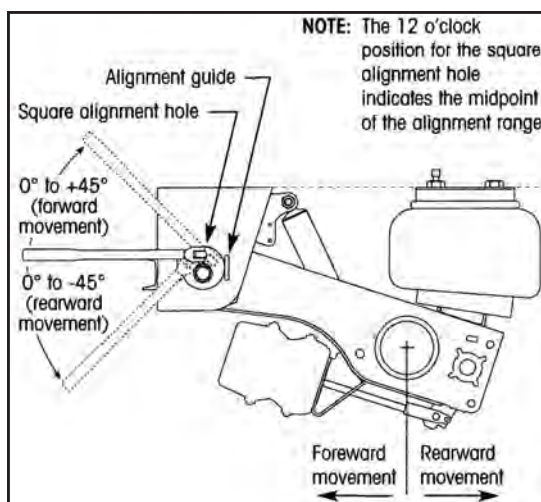
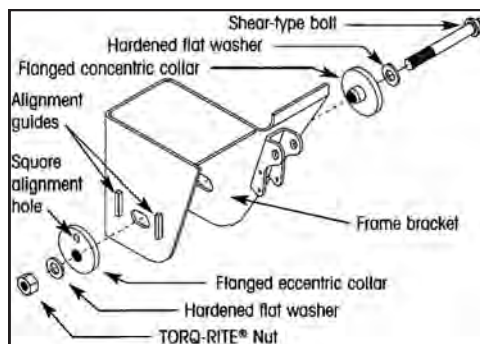

Figure 18. Quick-Align Operation
Figure 19. Pivot Connection Assembly
10. The **QUIK-ALIGN®** style pivot connection uses two flanged collars inserted into slots on each side of the frame bracket (Figure 19). The eccentric collar on the outboard side of the frame bracket is used to adjust the position of the axle during an alignment. The alignment guides on the side of the frame bracket limit the eccentric collar to rotational movement in the frame bracket slot. Rotating the eccentric collar clockwise causes the axle to move forward. Rotating the eccentric collar counterclockwise causes the axle to move rearward (Figure 18). The maximum range of adjustment is ± 45 degrees from the 12 o'clock position.
11. Using an E20 Torx socket, tighten the shear-type bolt axle pivot connection until the Torx head shears off. This ensures the proper torque of 550 ft. lbs. (± 45 ft. lbs.). Pivot bolts must be replaced when trailer is aligned. **DO NOT** attempt to reuse old pivot bolts. Assembly of pivot connection shown below (Figure 19).